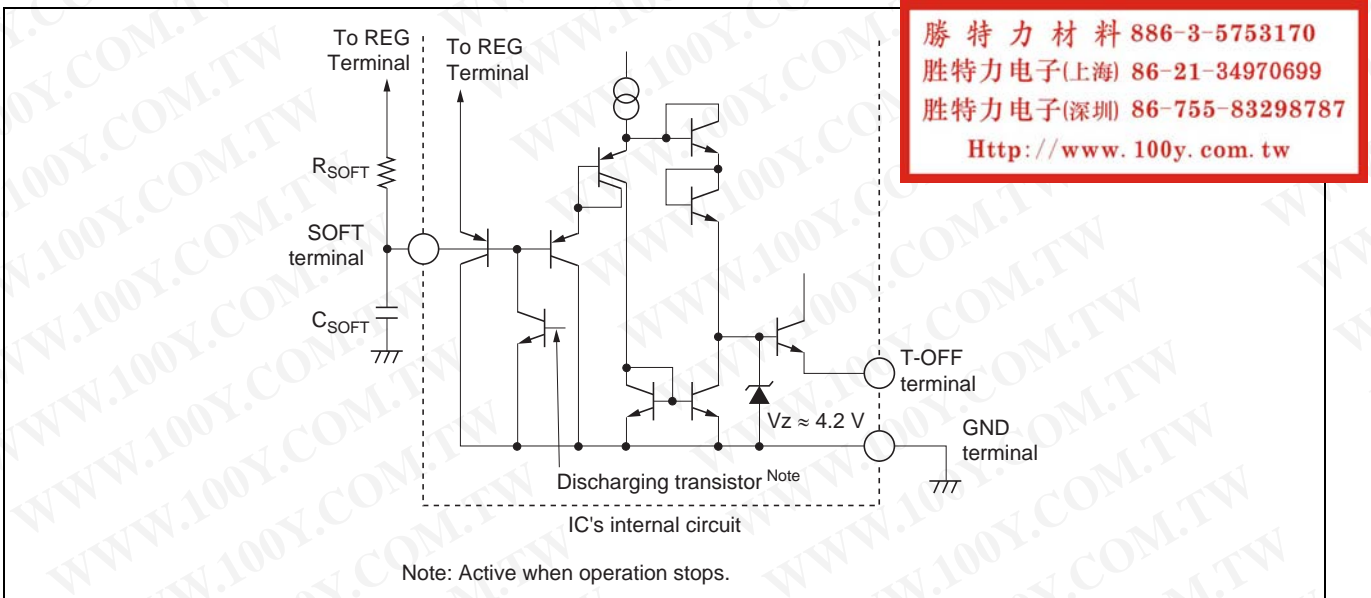

Figure 4 Circuit Diagram of SOFT Terminal Section and T-OFF Terminal Section
- (1) It is ideal for primary control as IC driving current is supplied from the third winding of the main transformer at the start-up because constant ON duration is obtained from start-up.
- (2) It is possible to get a wide dynamic range for ON/OFF ratio by pulse-by-pulse current limit circuit.
- (3) The response characteristics at power-on is not affected by input voltage as the pulse-by-pulse limit current value is not affected by the input voltage.
Figure 4 shows the circuit diagram of the soft start. If SOFT terminal voltage is low, T-OFF terminal voltage becomes low and  $V_{T-OFF}$  in equations (3) and (4) become low.